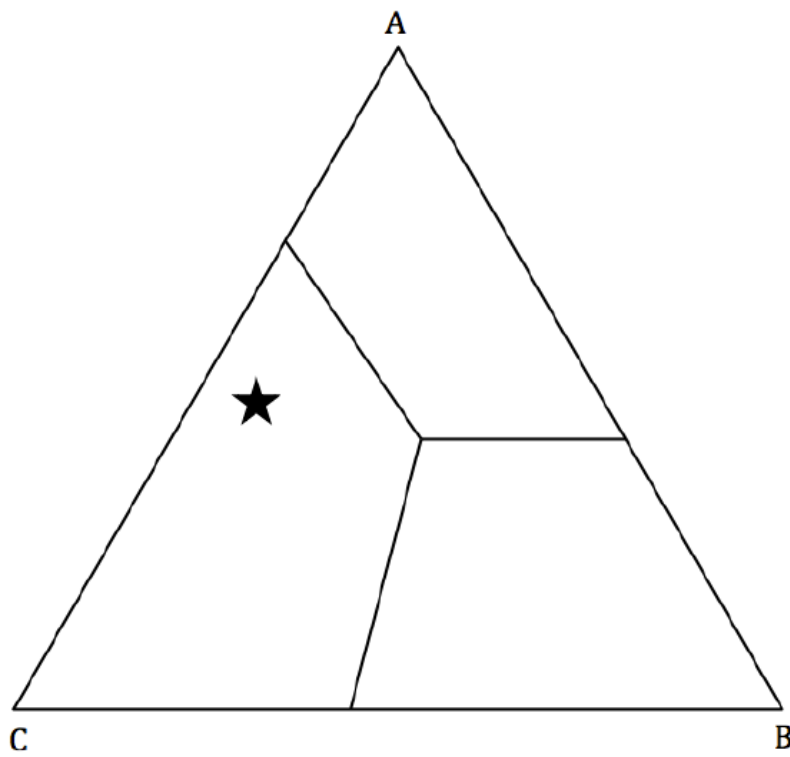

Figure 3.7: Liquidus projection diagram.
9) Using the attached liquidus projection diagram for the hypothetical system A-B-C shown in Figure 3.7, complete the following: